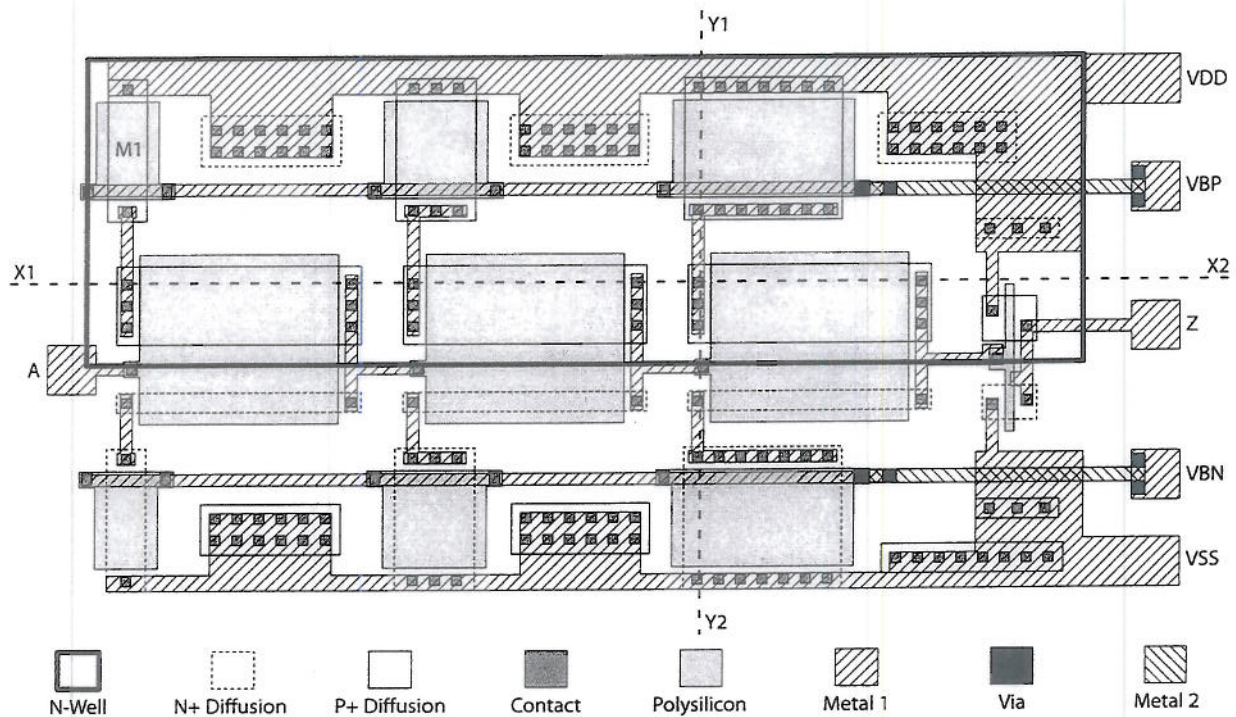

Figure 2.1
2. A full-custom layout design is shown below in Figure 2.1 for an integrated circuit implemented in a commercially available  $0.18\mu\text{m}$  1P6M CMOS technology (only 2 metal layers).